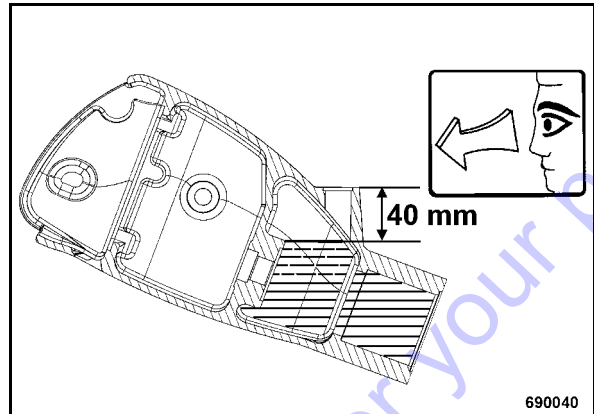

Fig. 78
- Check whether the hydraulic oil level is approx. 40 mm (1.6 in) below the filler opening (Fig. 78) (see also mark on steering rod head), top up hydraulic oil if necessary.